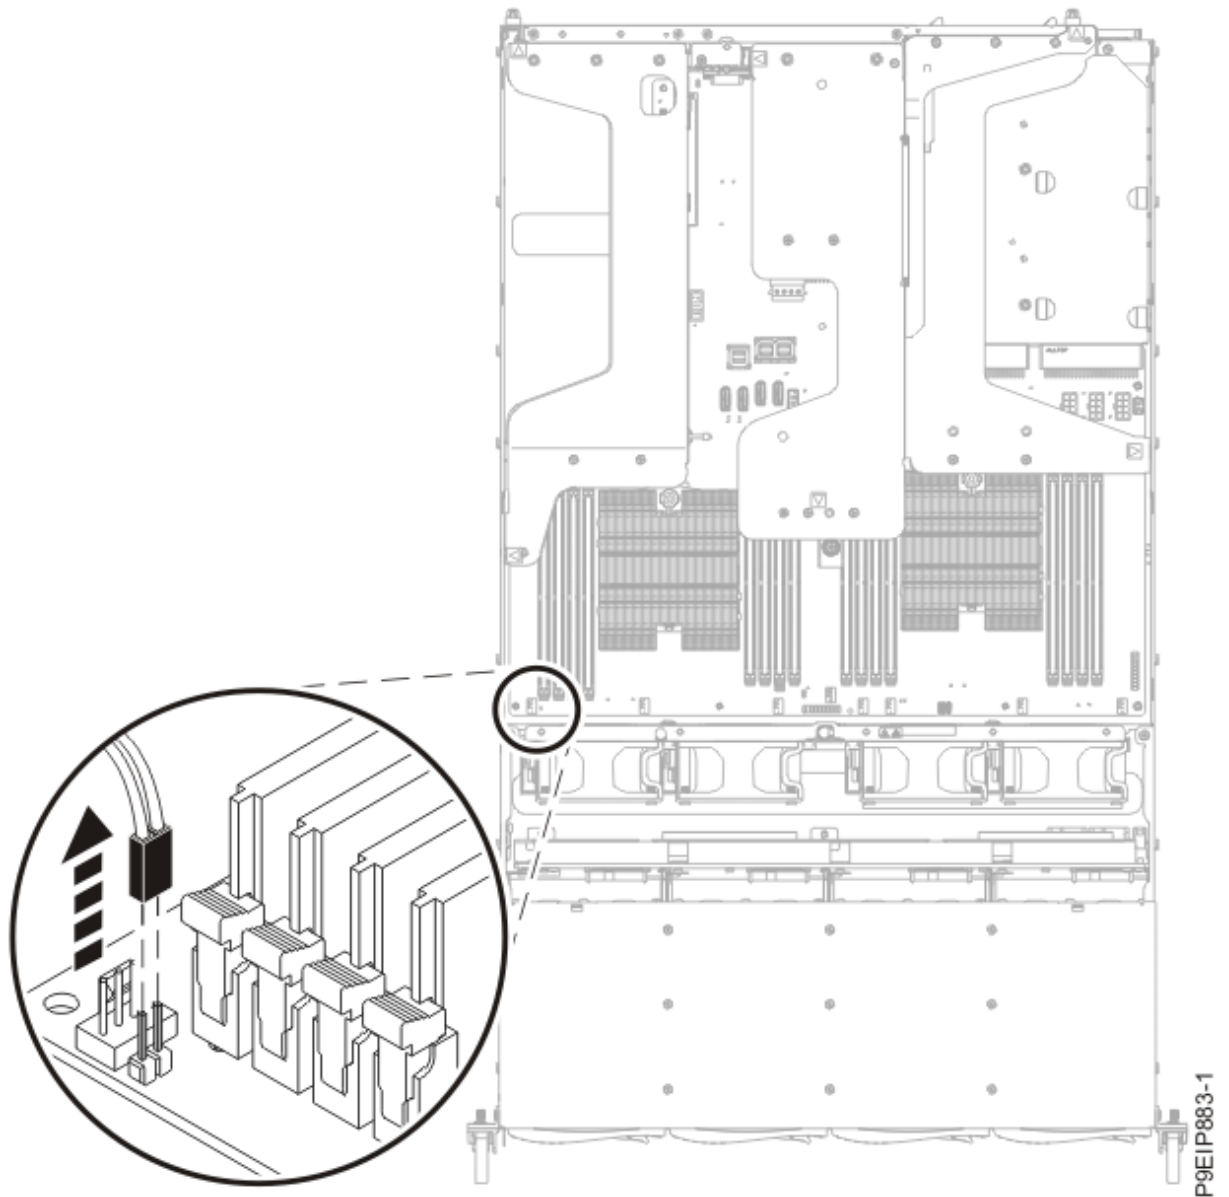

Figure 38. Removing the cover switch cable
9. Note the position and orientation of the cover switch cable. Remove the cover switch cable from the system backplane as shown in Figure 38 on page 41.